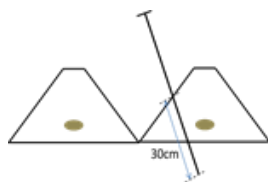

Figure 3: sampling potato ridges
- In case of potato ridges, the auger should be inserted at an angle at half the height of the ridge to a depth of 30 cm (i.e. not at the top of the ridge and also not along the gullies) (see figure 3).